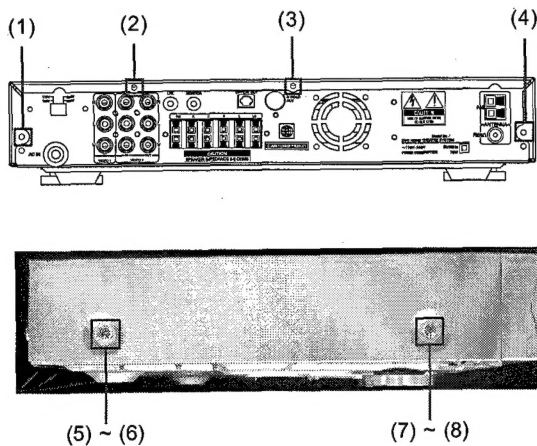

Fig. 2-1
1. Release 8 screws (A). (See Fig. 2-1)
1. Remove the top case. (See Fig. 2-1, 2-4)